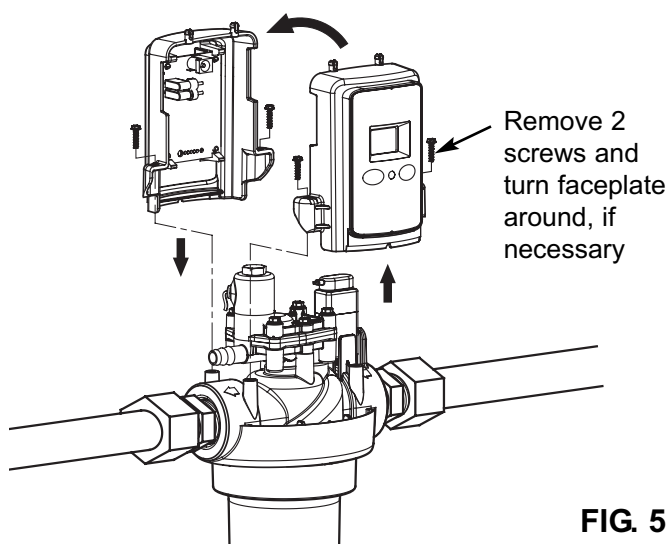

FIG. 5
2. With a phillips screwdriver, remove the 2 screws holding the faceplate assembly to the filter head (See Figure 5).